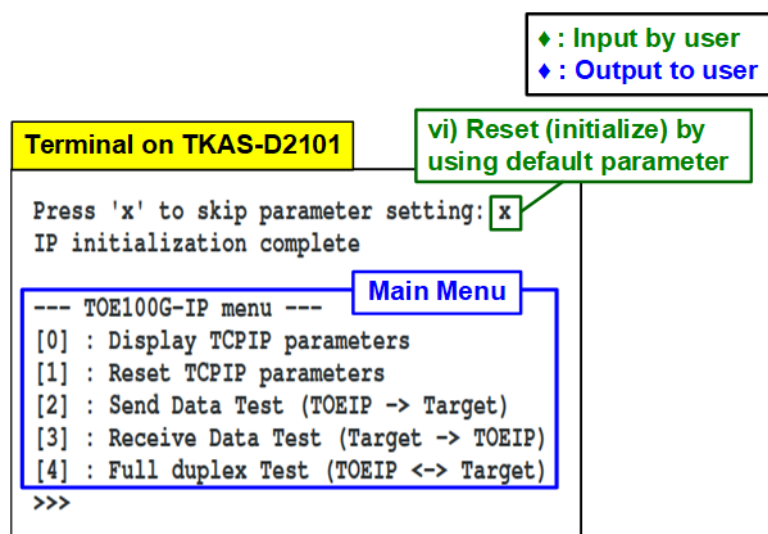

Figure 3-6 Initialization complete
- vi) Enter 'x' to skip parameter setting for using default parameters to begin TOE100G-IP initialization, as shown in Figure 3-6. If the other keys are entered, the menu for changing parameter is displayed, similar to “Reset TCPIP parameters” menu. The example to run the main menu is described in “dg\_toe100gip\_dma\_instruction” document.